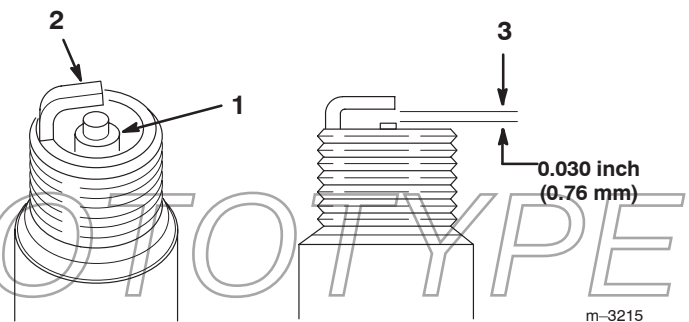

Figure 58
1. Look at the center of the spark plugs (Fig. 58).
2. Check the gap between the center and side electrodes (Fig. 58) and bend the side electrode, if the gap is not correct.